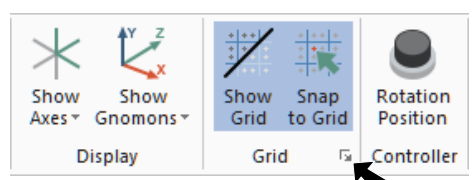

Fig. 3
Step 2. Click the **Dialog Box Launcher**  (Alt-G), **Fig. 3**.